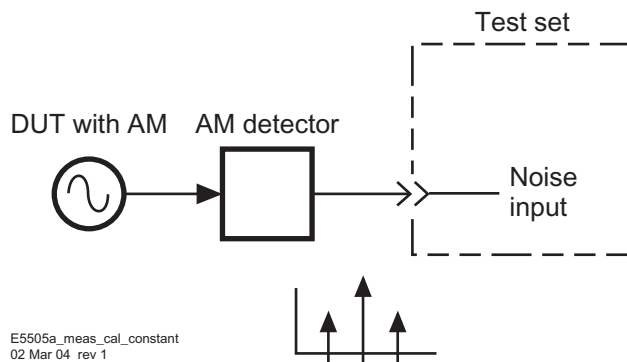

Figure 229 Measuring the calibration constant
- 5 Measure the AM detector calibration constant (Figure 229).